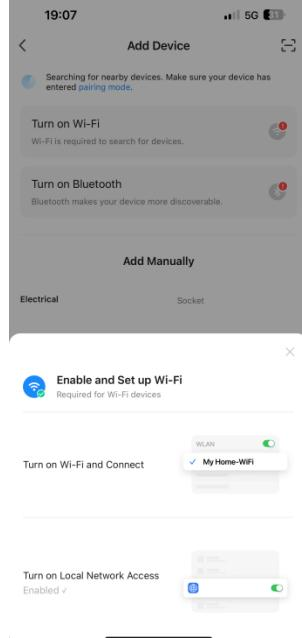

Fig.3
- 3.3Tap Turn on Wi-Fi or Turn on Bluetooth to enable Wi-Fi or Bluetooth as instructed.(Fig.3, 4)